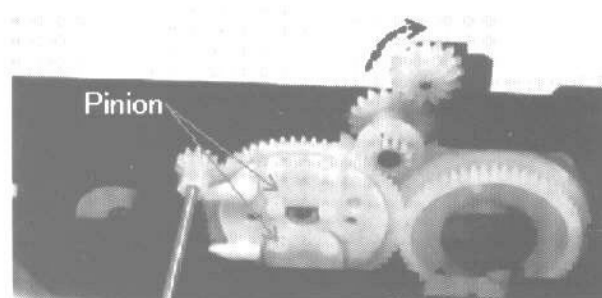

Fig.8
A) First insert CARRIAGE 30(63) between ARM(44) and TURN TABLE and set it until inside end. Push SLIDER 2(36) block down and slide it until inside end. CARRIAGE is locked with ARM.
- 1) Turn GEAR IDLER 2(17) clockwise. The lower PINION in GEAR SUPPORT turns anti-clockwise. After it stops, the upper PINION turns clockwise. Just before the lower PINION starts to turn, stop to turn GEAR IDLER 2. Set CARRIAGE 20(62) as fitting it with the lower PINION as Fig. 8.
- 6) After all CARRIAGES are set, turn DRAWER block upside-down. Insert FFC(75) straight into CONNECTOR(73) of CONNECTOR PC BOARD(70) with a pair of tweezers. Take care not to damage the Cable. (You may insert the Cable after item 9), just after fix the right side.)
- 7) In assembly of the left side of CHASSIS, GEAR IDLER A(39) has a direction. (See Fig.8) Set it as its marking faced to the front. (If it doesn't have any marking, no need to take care of direction.)